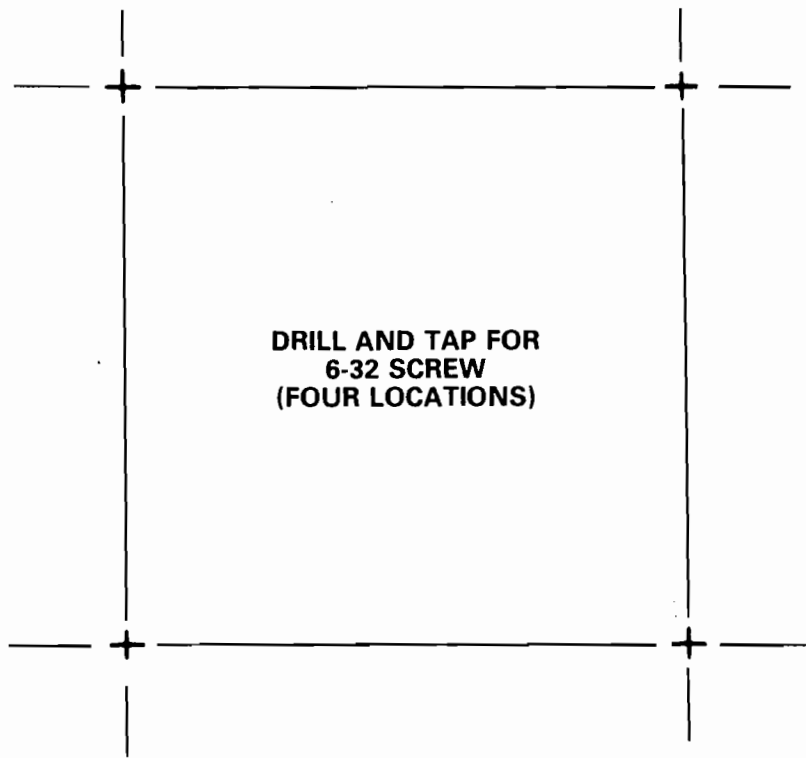

*Figure 3.4.5 Interface Boards Surface Mount Dimensions*
**User Equipment Terminations:** All channels are single ended and share a common reference to all other channels and to the power supply common. The pinout of the system connector is shown in Figure 3.4.4. The 3B Series backplanes are readily interfaced to any user equipment by means of various interconnection boards. Four interface boards are available that interface directly with Analog Devices' Real Time Interface (RTI) Boards while there are two universal boards that are designed to satisfy most user interface needs. Five of these interface boards have identical mechanical dimension (5" x 4.5" with 3" x 3" mounting holes see Figure 3.4.5) while the AC1324 has smaller dimensions. (See Figure 4.2.2.1). There is also a selection of 3B to RTI Cable Assemblies (a cable assembly being defined as a cable with two connectors) that allow direct interface with many Analog Devices' RTI Boards.